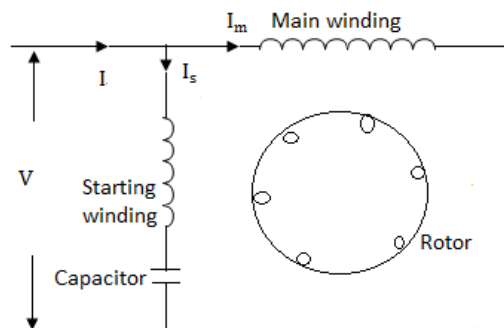

Fig. 10.5
- (1) Pumps (2) Compressor (3) Air conditioner (4) Conveyors
10.10.3 **Capacitor start capacitor run motor:** In capacitor start capacitor run motor is shown in fig. 10.5.